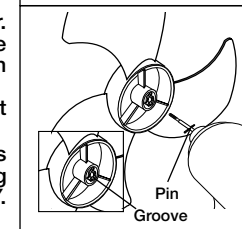
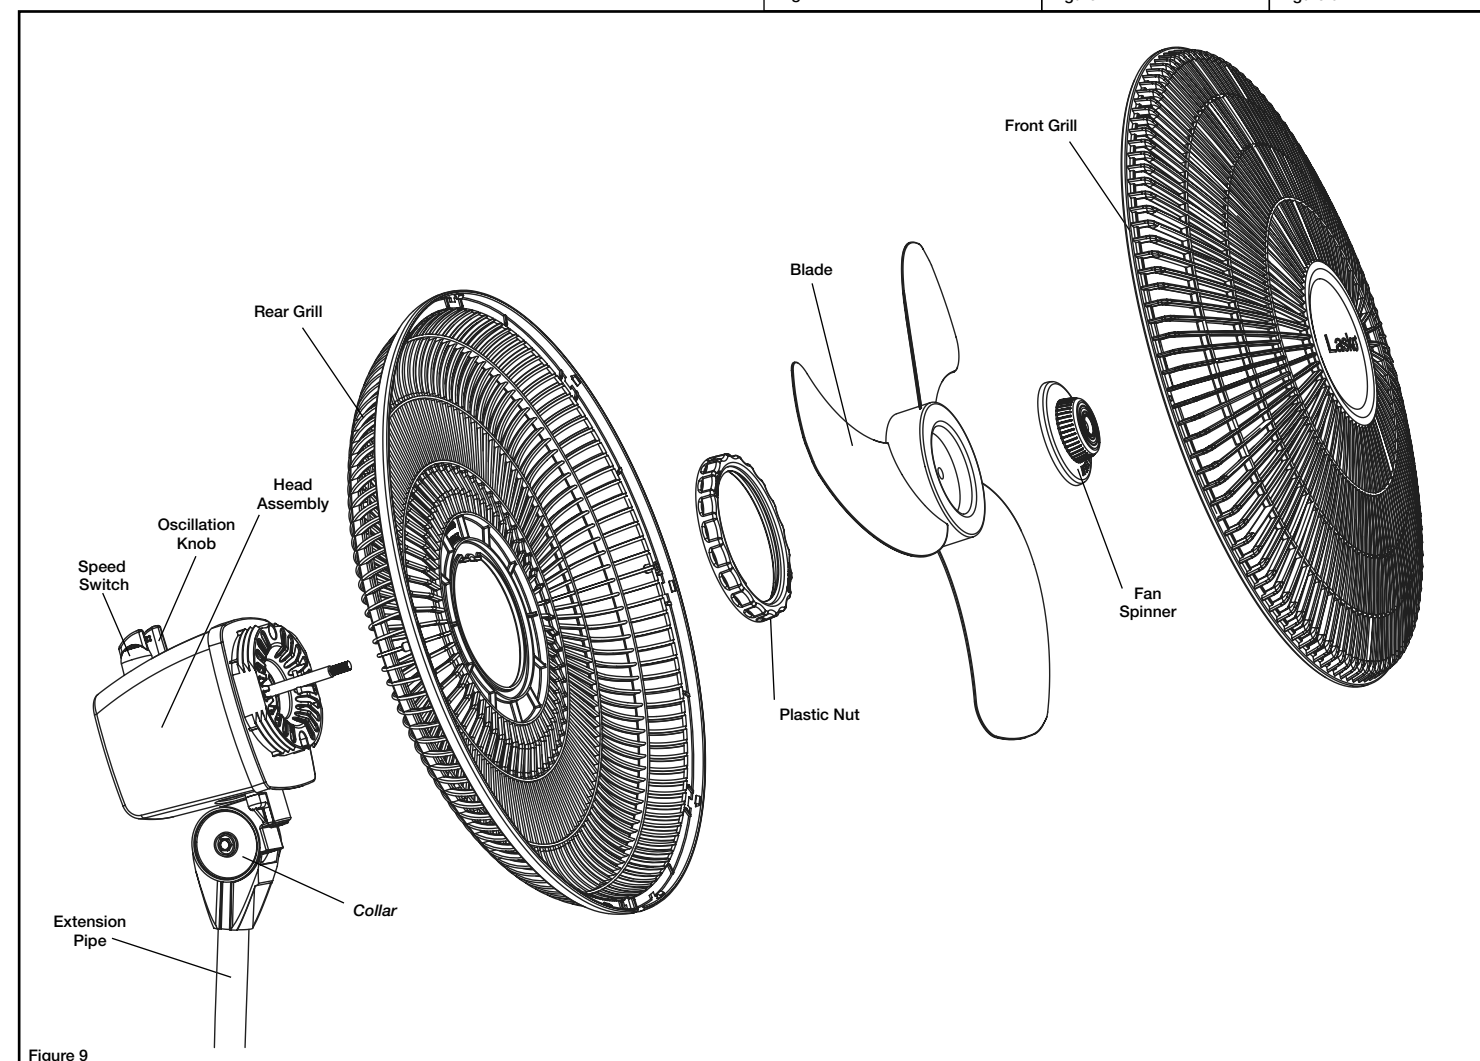

Figure 6
Figure 9
7. Place Head Assembly with Collar onto Extension Pipe. (Figure 9)
9. Tilt Head Assembly back. Put Rear Grill on Motor. (Figure 9)
11. Fully seat Rear Grill and secure with Plastic Nut turning Clockwise. Slide Blade onto Motor Shaft. (Figure 9) Align Groove on blade hub with Pin on motor shaft. (Figure 6)